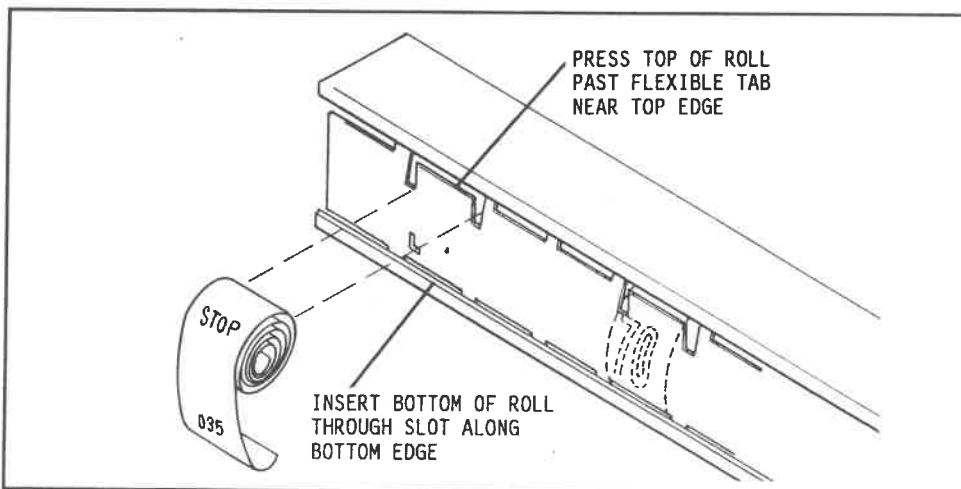

Figure S-17b
- \* Insert the dollar roll in the left-most pair of slots if the price is \$1.00 or more. See Figure S-17b.
- \* Insert the cents roll in the center pair of slots. See Figure S-17b.